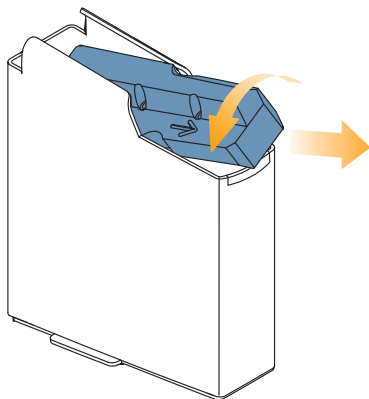

Fig 3-6
- Hold the front of the magazine follower/spring assembly with the other hand and twist the follower anti-clockwise through approximately 45 degrees, as illustrated in Fig 3-6.